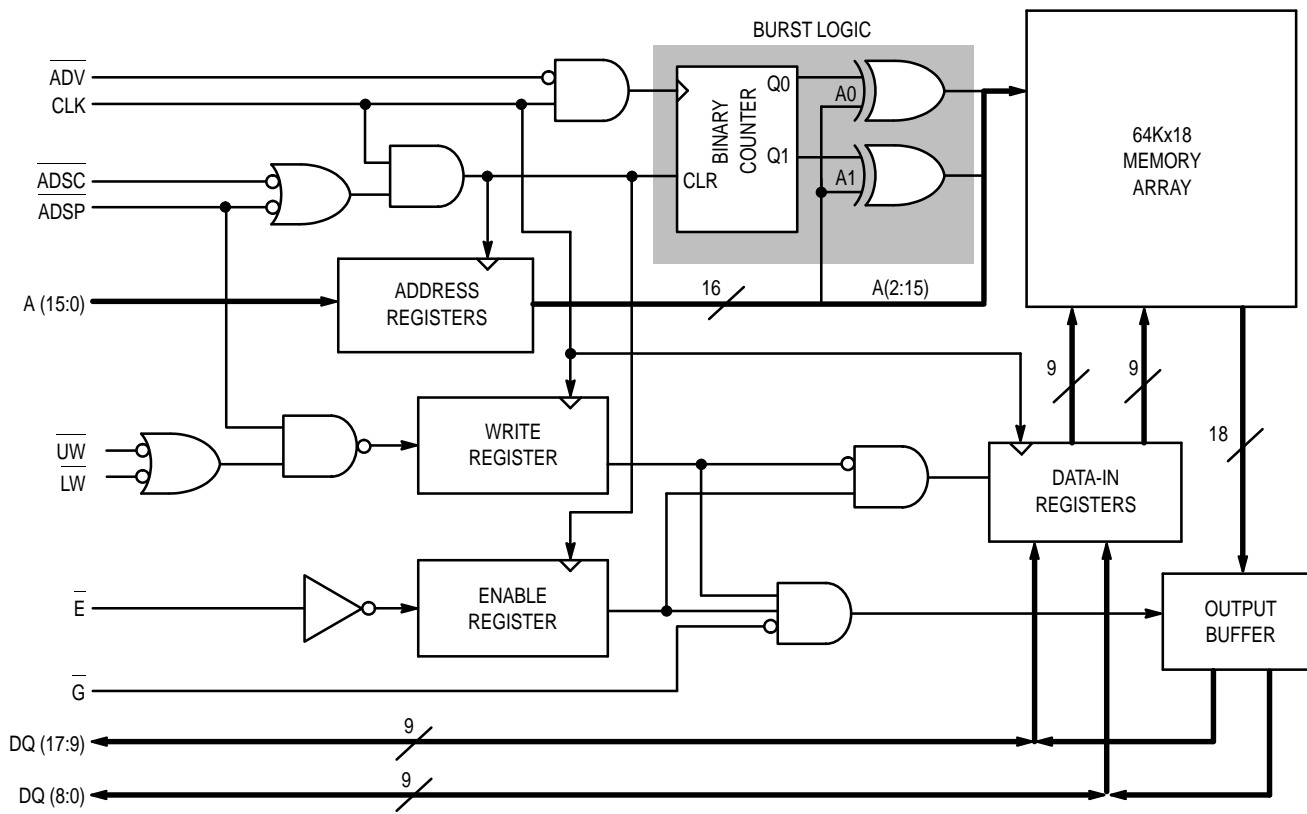

Figure 2. Block Diagram of 64Kx18 BurstRAM
BurstRAMs are synchronous SRAMs that contain input registers for address, write, and enable signals and have an on-chip burst counter that imitates the i486 and Pentium's lower order address burst count. These control signals are registered into the BurstRAM on the rising edge of the CLK input. Three (3) control pins allow complete control of the burst function. ADSP (ADS Processor), ADSC (ADS Controller), and ADV (ADVance) control the burst read/write functions as well as single read/writes. A self-timed write is also provided for the purpose of simpler (and relaxed) write timing. Byte-write capability is provided with the UW and LW (Upper/Lower byte Write) signals. Note that all control signals are active low. See Figure 2.